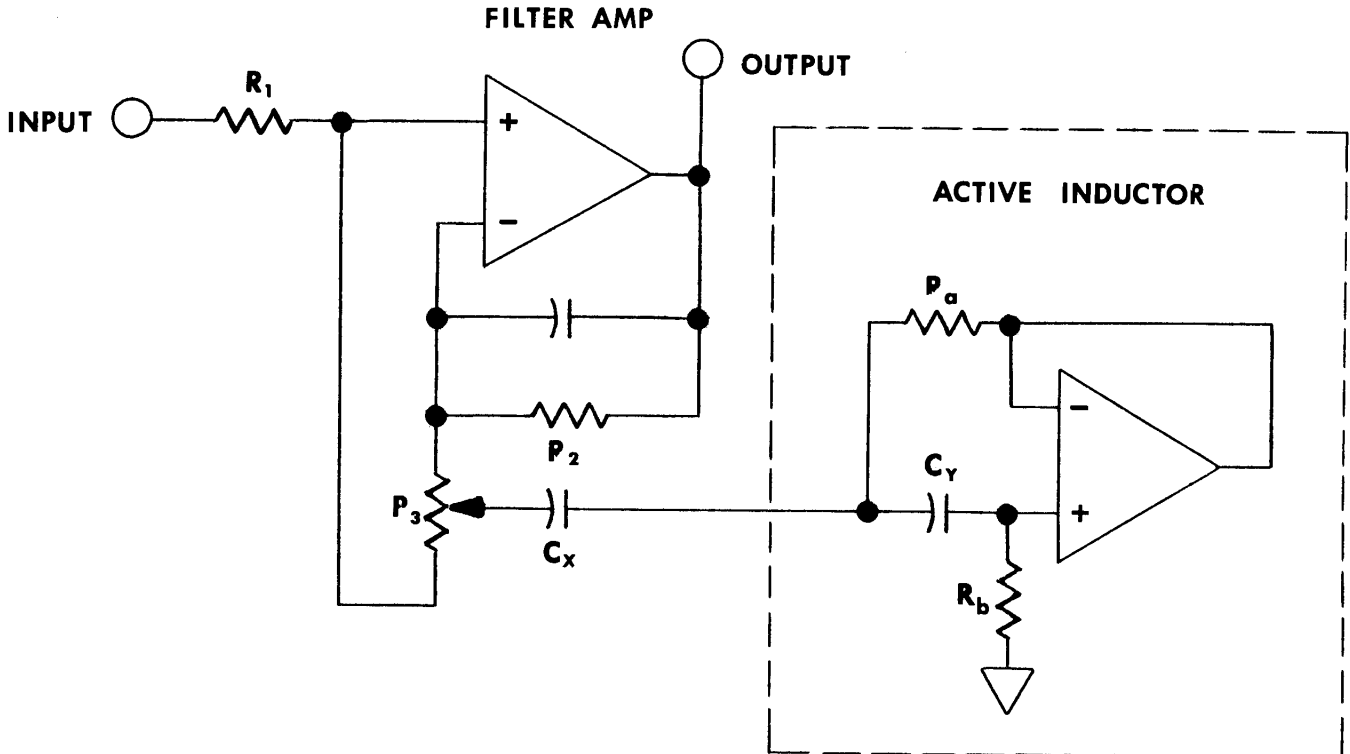
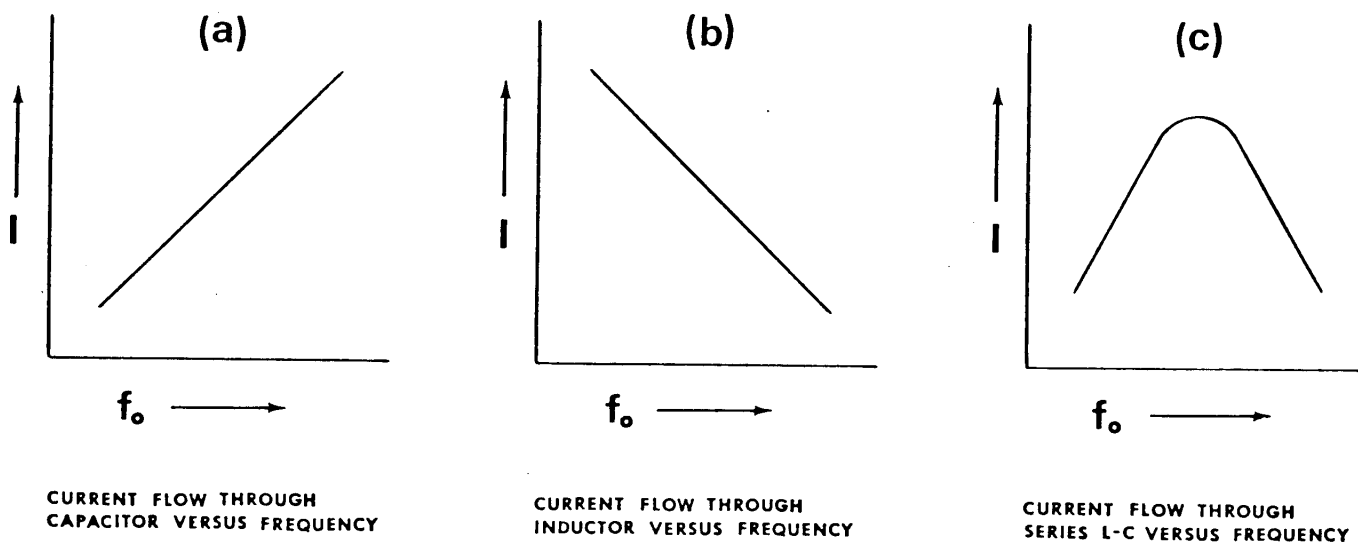

Figure 2-2 TYPICAL FILTER SCHEMATIC
Figure 2-3
Referring to Figure 2-2, the filter amplifier is connected as a unity gain follower because R1 and R2 are equal. With the potentiometer connected as shown, consider the result if the wiper of the pot were connected to AC ground. As the wiper is moved towards the positive input of the filter amplifier a voltage division of the input signal takes place, thus reducing the output of the amplifier. As the wiper of the
2.3 THE ACTIVE INDUCTOR. The Model 532 does not use conventional coils to form its L-C-R networks. Rather the inductors are synthesized through the use of a circuit known as an active inductor, shown in Figure 2-2. To understand the operation of this circuit we look at the frequency response characteristic of a capacitor as shown in Figure 2-3 (a).
As frequency increases, capacitive reactance decreases and more current flows through the capacitor. An inductor as seen in Figure 2-3(b) functions in just the opposite manner. As frequency increases, inductive reactance increases and less current flows through the inductor. The active inductor circuit uses a capacitor and an operational amplifier to
simulate the action of an inductor. If we remove capacitor C_y from the circuit in Figure 2-2 we see that current flows into the circuit through resistor R_a to the virtual ground of the operational amplifier output. If we now return capacitor C_y to the circuit we see that with increase in frequency there will be current flow through the capacitor which will increase with frequency. This increase in current flow will be seen as an increase in voltage across resistor R_b which will be reflected in an increase in output voltage of the operational amplifier. This increased voltage results in a decrease in current flow through resistor R_a . This change in current flow through resistor R_a follows the chart 2-3(b) which is that of an inductor. The current flow through the active inductor in series with capacitor C_x is seen in Figure 2-3(c) in which the peak current is achieved when the inductive reactance of the inductor equals the capacitive reactance of the capacitor. This point is the resonant frequency of the circuit.